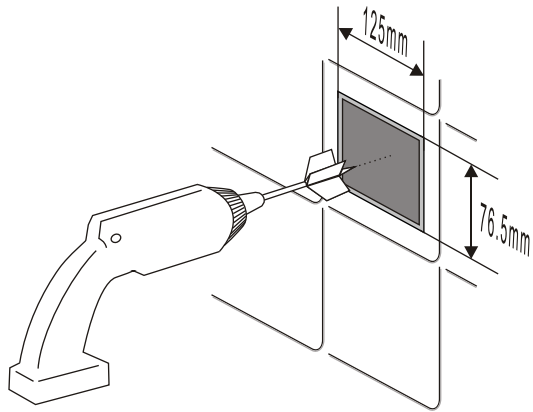

Figure 2
**Step 2: Drill a square hole (125×76.5 mm) on the control panel as illustrated in the figure below (figure 2).**
1. Put the controller wire through the square hole as illustrated in the figure below (Figure 2). Connect the wire with the extended wire (if any) and pull it to the steam generator.
3. Apply a circle of airproof glue along the edge of the back of the detector foundation (as shown in Fig.2).
4. Use a locknut to lock the detector foundation. (As shown in Fig.2)